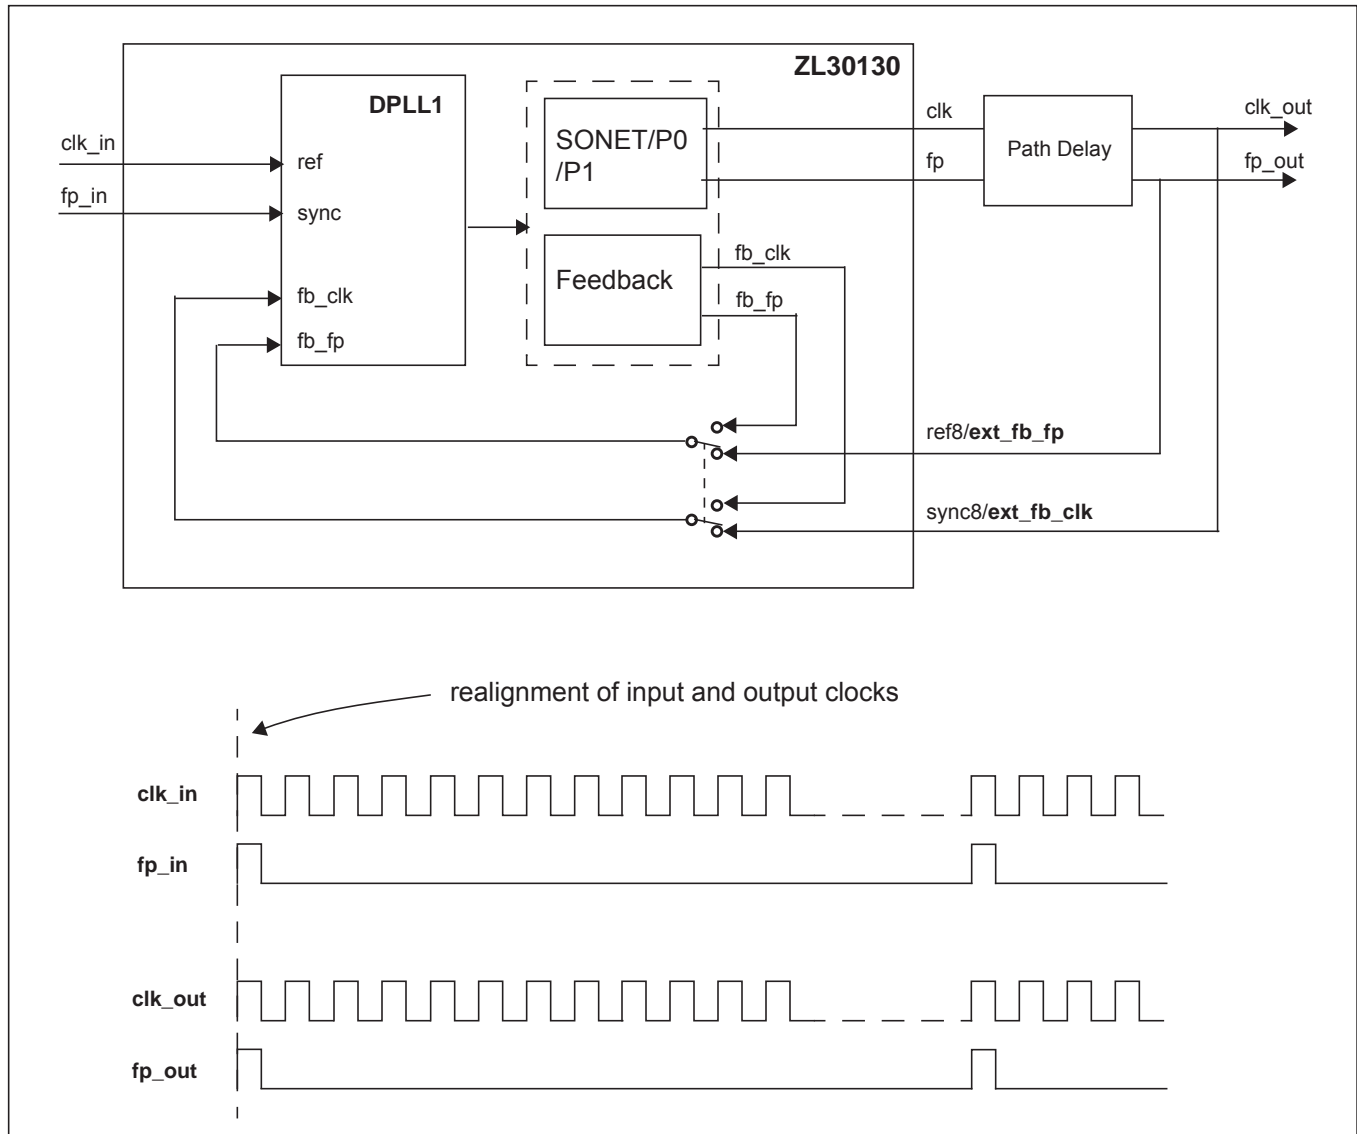

Figure 21 - External Feedback Configuration
In addition to the static delay compensation described in the “Configurable Input-to-Output and Output-to-Output Delays” section on page 42, the ZL30130 also provides the option of dynamic delay compensation to minimize path delay variation associated with external clock drivers and long PCB traces. This is accomplished by re-directing the internal DPLL1 feedback path to external pins and closing the loop externally as shown in Figure 21. The *ext\_fb\_clk\_en* bit of the *fb\_control* register (0x62) controls if the feedback path is internal or external. The *ref8/ext\_fb\_clk* and *ref8/extfb\_fp* pins must also be configured as *ext\_fb\_clk/pf* pins using the *fb\_ref8\_sync8\_ctrl* bit of the *fb\_control* register (0x62).